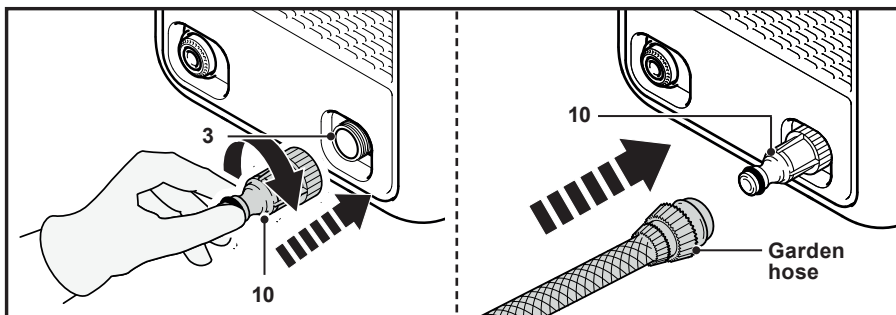

Fig. 7
1. Connect the water inlet adapter (10) to the water inlet (3) by screwing it clockwise (Fig. 7).
2. Connect a garden hose (not included) to the water inlet adapter (10) (Fig. 7).
1. Connect the water inlet adapter (10) to the water inlet (3) (Fig. 7).